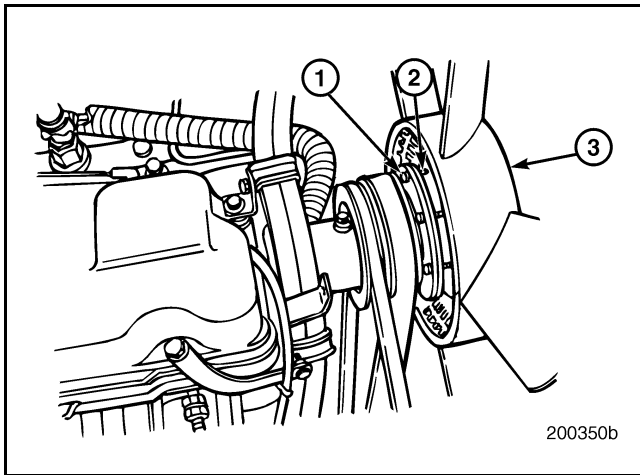

Figure 120 — Fan Assembly Removal
- a. Loosen the eight fan assembly mounting nuts and capscrews. Refer to Figure 120.